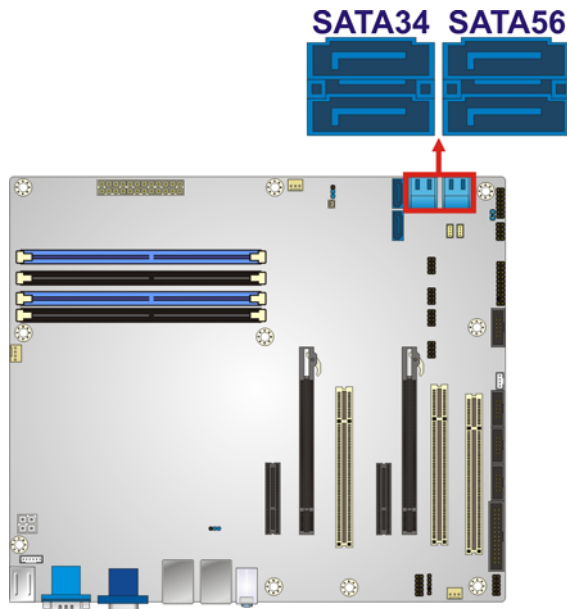

Figure 3-18: SATA 3Gb/s Drive Connector Location
CN Location: See Figure 3-18
CN Location:	See Figure 3-18
- CN Location:** See **Figure 3-18**